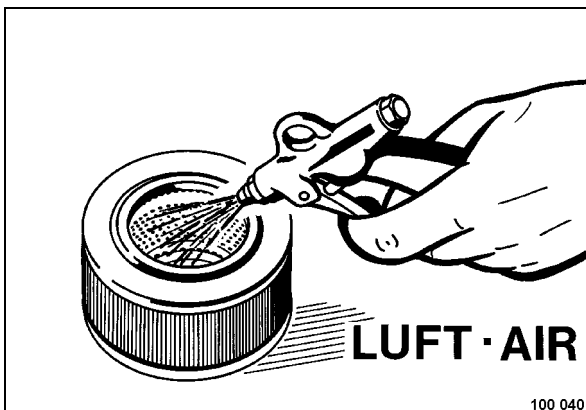

Fig. 47
- Blow the air filter out from inside to outside with dry compressed air (max. 5 bar (72 psi)) (Fig. 47).